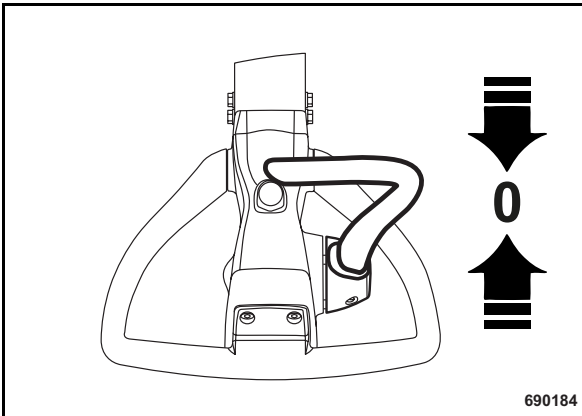

Fig. 17
- Shift the travel lever (Fig. 17) to position "0".